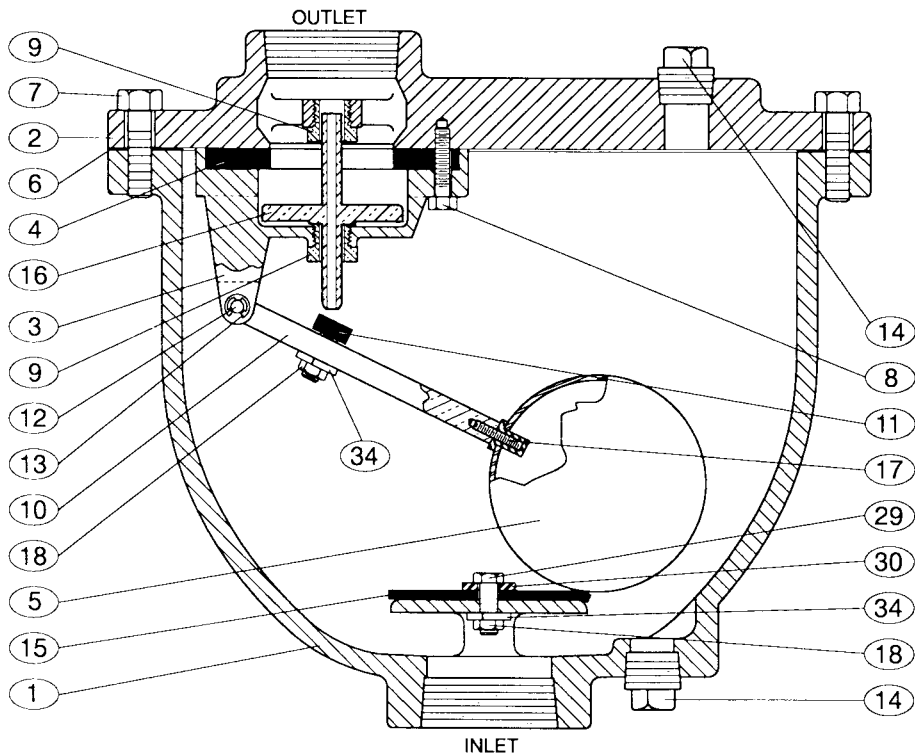

FIGURE 6. 1"-4" COMBINATION AIR VALVE
The standard Combination Air Valve body and cover are cast iron. See the specific Materials List submitted for the order if other than standard cast iron construction. The internal metal components are brass or stainless steel. The orifice button and seat are resilient Buna-N. The general details of construction are illustrated in Figure 6. The body (1) is threaded for connection to the pipeline. The seat (4) is retained by a baffle (3) and the cover (2). The adjustable orifice button (11) has a threaded post for attachment to the float arm (10).
All parts must be cleaned and gasket surfaces should be cleaned with a stiff wire brush in the direction of the serrations or machine marks. Worn parts, gaskets and seals should be replaced during reassembly. Refer to Figure 6 on page 3.